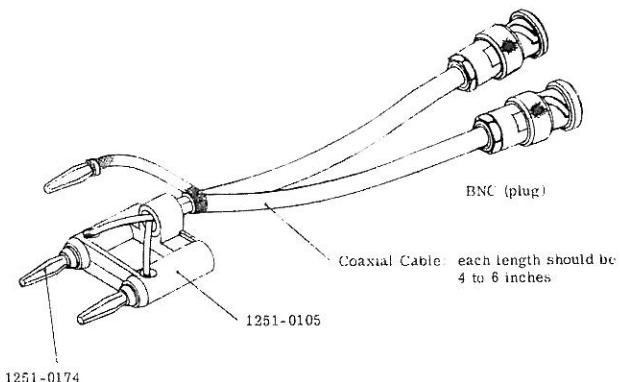
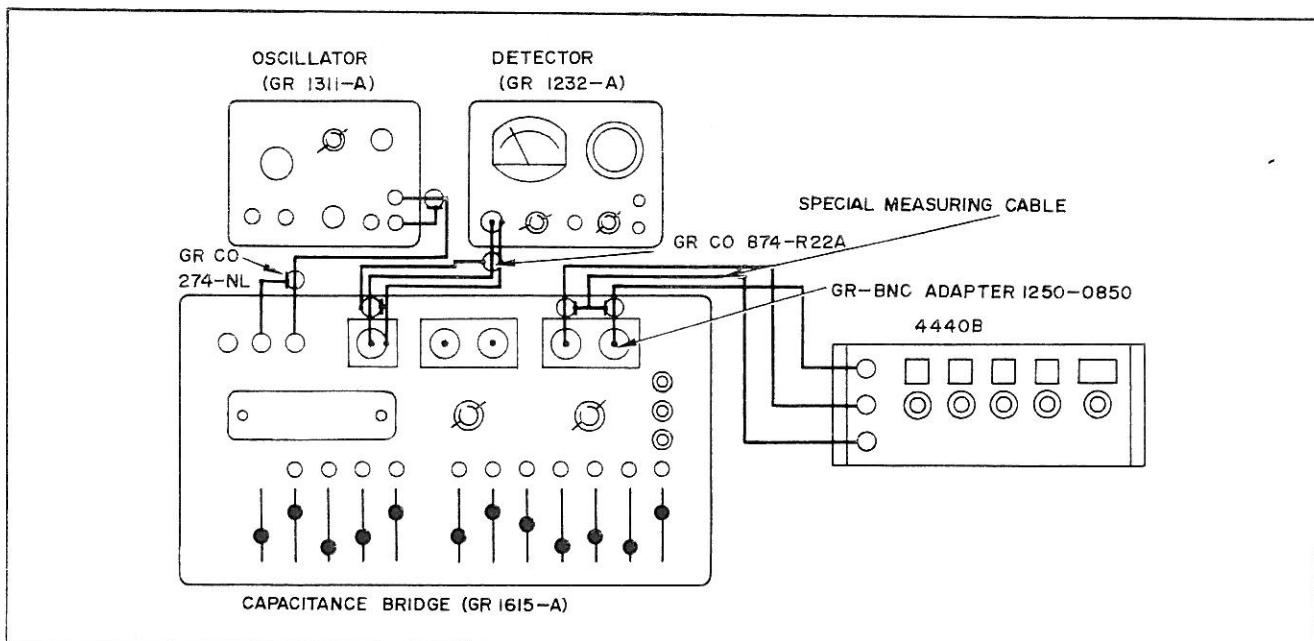

Figure 4-1 Measuring Cable
Figure 4-3. Performance Test Setup
4-7. The performance test setup is illustrated in Figure 4-3. An Oscillator (GR Type 1311-A), a Capacitance Bridge (GR Type 1615-A), and a Detector (GR Type 1232-A) are required for this test. In addition, a special measuring cable assembly as shown in Figure 4-1 is required.
- Make test setup as illustrated in Figure 4-3.